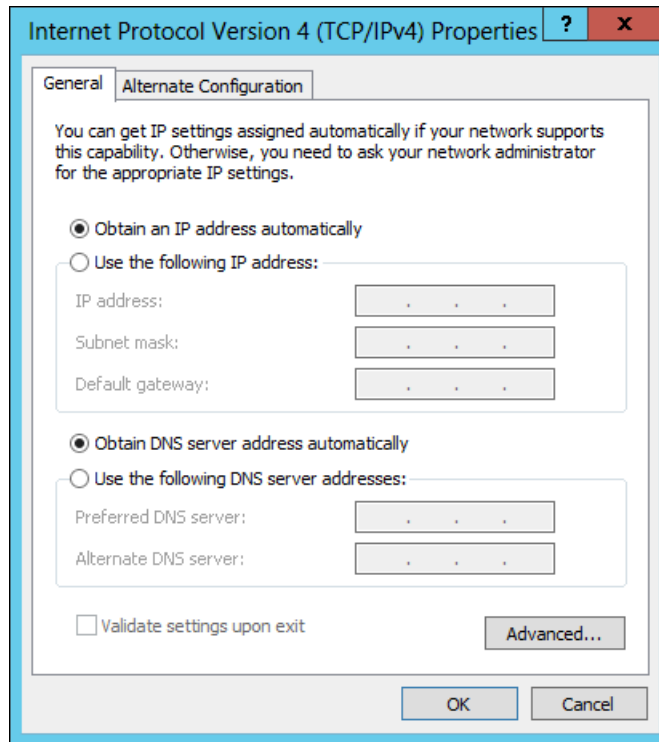

Figure 5-16 Configuring an IPv4 address in Windows 2012 R2
5. For IPv4, the window that is shown in Figure 5-16 opens. To manually set the IP, select “Use the following address” and enter an IP address, subnet mask, and gateway. Set the DNS server address, if required. Click **OK** to confirm.